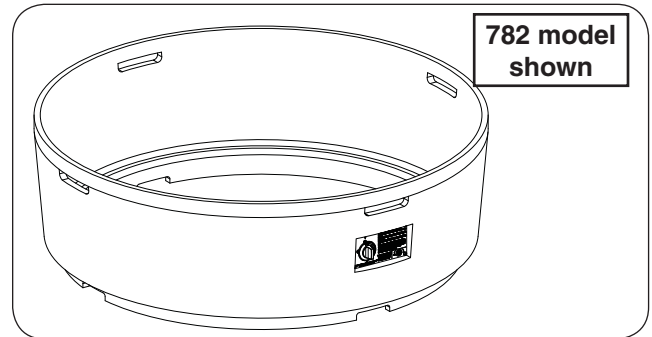

Fig. 26-1 Place base (and connect gas supply)
1. **CAREFULLY** place the base in an appropriate location (see Fig. 26-1, and refer back to the LOCATION section if needed).